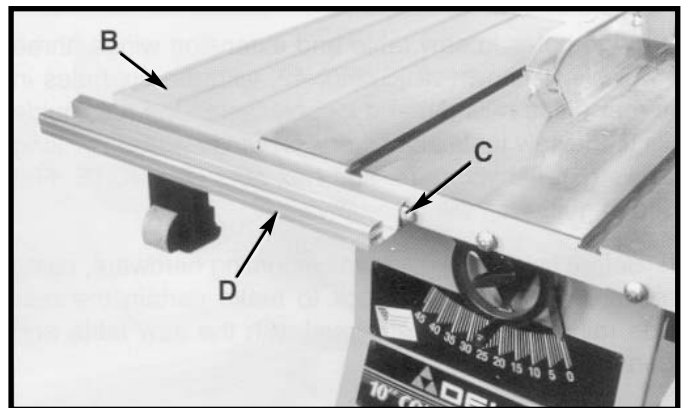

Fig. 42
2. Starting at the extreme left side of the left extension wing (B) Fig. 42, carefully slide the smaller section of the front guide rail (D), onto the heads of the first three carriage bolts, one of which is shown at (C). **NOTE:** Make certain the heads of the carriage bolts are inside the channel at the rear of the guide rail. **IMPORTANT:** Slide the guide rail on the carriage bolts until the left edge of guide rail (D) is flush with the edge of the left extension wing (B).